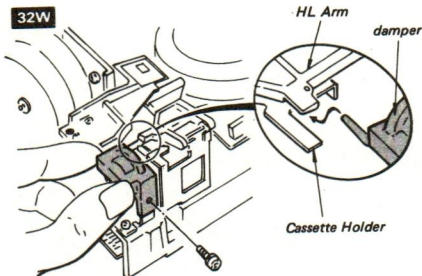

Fig. 4-7 Damper Replacement
- Remove the screw (PS2.6 x 6) which fastens the damper to the head load ass'y, and then remove the damper. (Refer to Fig. 4-7)
- Insert the damper arm tip into between the cassette holder and HL arm, and set the damper to the head load ass'y. (Refer to Fig. 4-7)